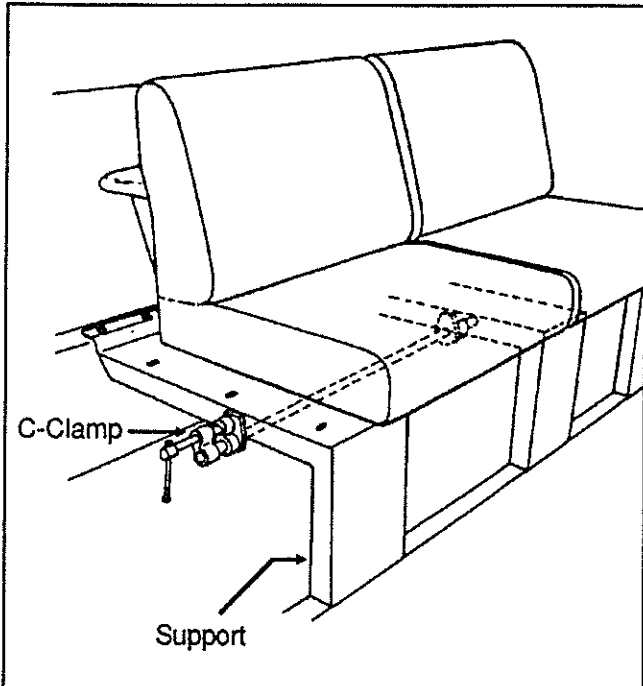

Figure 4 - Straight seat module Installation IS917704
20. Position the second straight seat module next to the first one, and from underneath, attach seat module to supports using (3) 5/16" x 1" bolts and flat washers per support. **DO NOT TIGHTEN.**
21. Mount an appropriate C-Clamp against the second and third seat module support (see fig. 4) then screw it to obtain the best possible fit between seat modules.